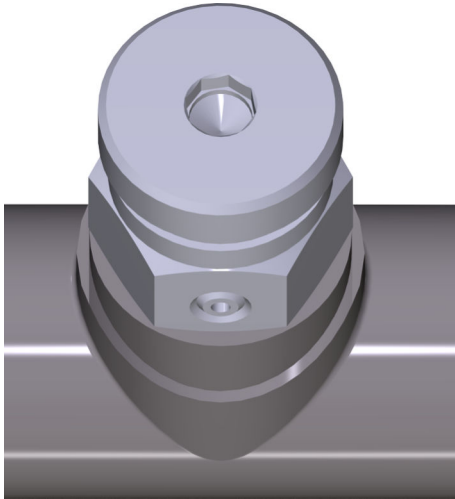

Fig. 49: Opening the valves
1. ➤ To depressurise the primary circuit of the heat interface unit, open the air bleed valves (Fig. 49).